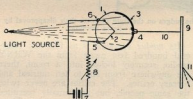

FIG. 3 DEMONSTRATION CIRCUIT
Fig. 3. The ionization of nitrogen. N is the nucleus; E, electron projectile falling toward plate; P, circle enclosing the negative sign, one of the seven electrons knocked off; and circle enclosing + is the remainder of the atom.
The very first cell constructed in the course of the experiments is shown diagrammatically in Fig. 2. We see there a glass container (1) in which is inclosed a filament (2), and a photo-electric plate (3). Contacts 4, 5 and 6 were brought to the outside. This tube was connected as shown in Fig. 3, where we see the tube connected to a battery (7) for lighting the filament, which can be regulated by means of a rheostat (8). If we connect the sensitive plate by means of a wire (10) to the stem of a sensitive electrometer (9), we see that the gold leaf (11) takes a position, depending upon the electronic charge which accumulates upon the photo-electric plate (3), as a result of the thermionic emission from the filament. If light now falls upon the cell, the photo-electric emission will come into play, and therefore the plate will lose some of its charge, with the result that we see the gold leaf fall down and take a second position, as indicated by the dotted line. As soon as the light source is removed, the gold leaf takes its original position. We can make this effect even stronger by interposing between the filament and the sensitive plate a grid, which is held at a constant positive potential, as is shown in Figs. 4 and 5.